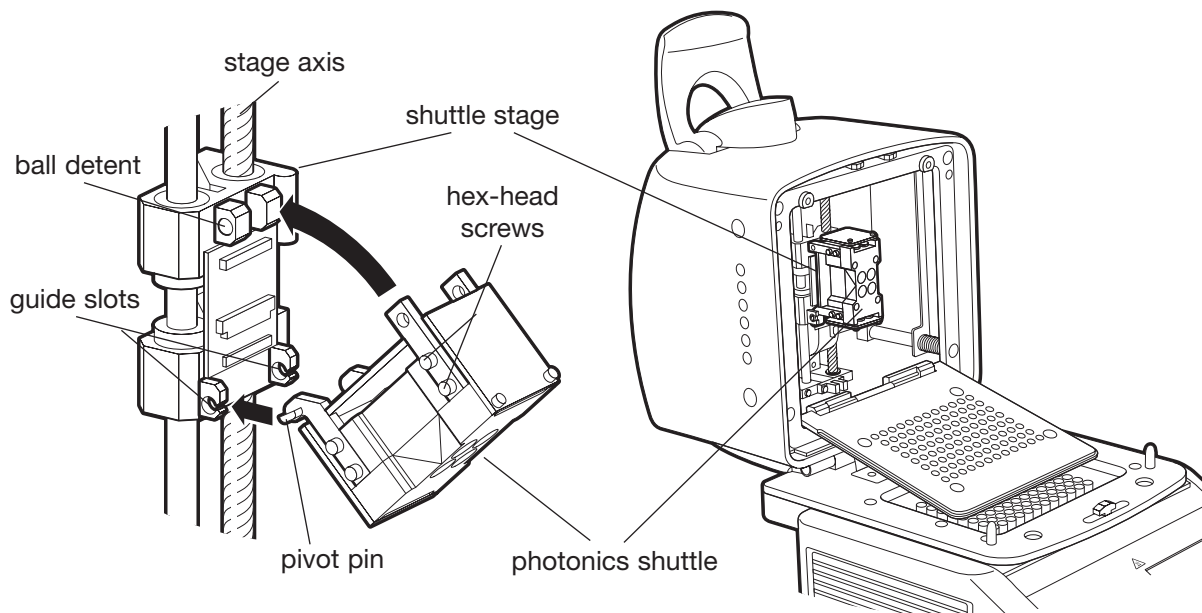

Figure 3-6. Installing the Chromo4 photonics shuttle
5. Orient the photonics shuttle so that when you insert it into the shuttle stage the circuit board will face the stage, the flattened pivot pins are at the bottom, and the metal side plates with holes to accommodate the ball detents are at the top. In this position, the 18-pin connector should insert into the connector on the shuttle stage (refer to Figure 3-6).